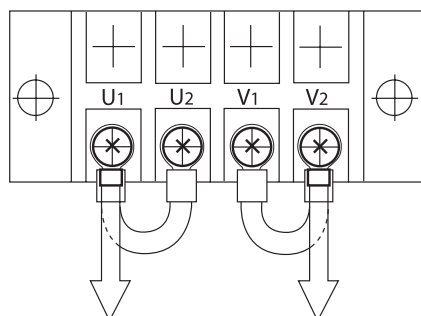

Figure 21: Output Terminal Board, 120 Volt Output
- b. Connect U1 to U2 and V1 to V2 on the output terminal board (Figure 21). Connect 120 volt output leads to terminals U1 and V2.